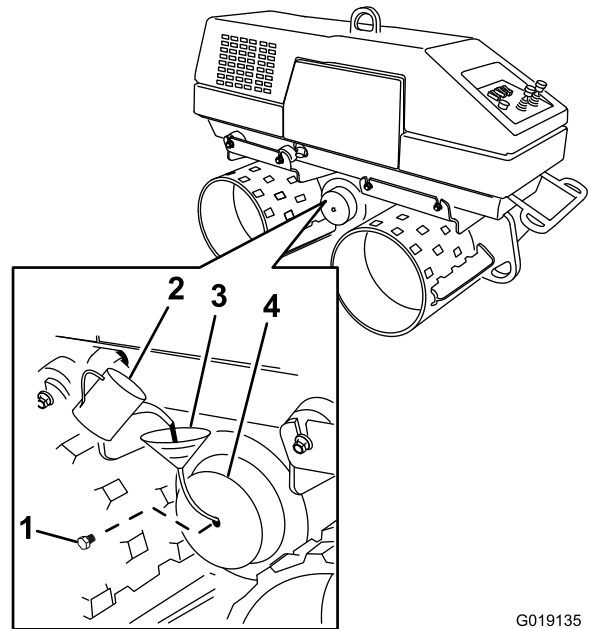

Figure 79
1. Locate the eccentric end cap at the left-lower exterior of the machine (Figure 79).
2. Remove the fill plug from the eccentric end cap (Figure 79).
3. Pour 235 ml (8 ounce) of the specified oil into the eccentric oil reservoir through the fill hole as shown in Figure 79.
5. Install the fill plug into the fill hole of the end cap (Figure 79).